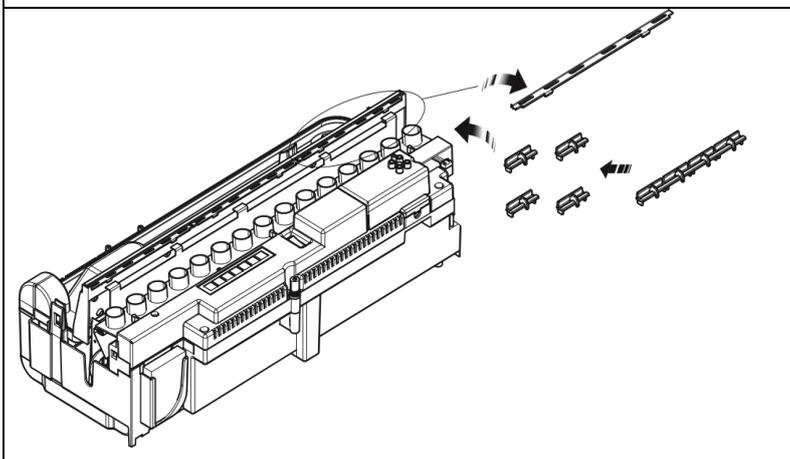

Fig 21
4. Disconnect the electrical connector to the transducers, located on the right side of the sump. (Fig 21).